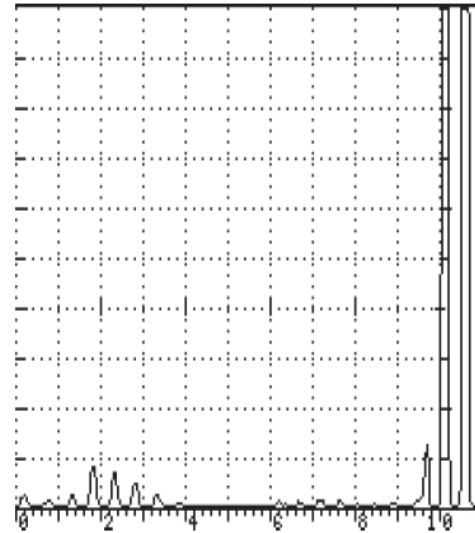

Figure 5-9. Pitch-Catch Echo from a 0.500 Step Block
9. Move the transducer to the thickest (0.500 inch) step. Adjust the Velocity by pressing the RANGE menu key, the VEL *menu soft key*, and rotate the SmartKnob™ to line up the leading edge of the first echo on the last graticule line (refer to **Figure 5-9**).